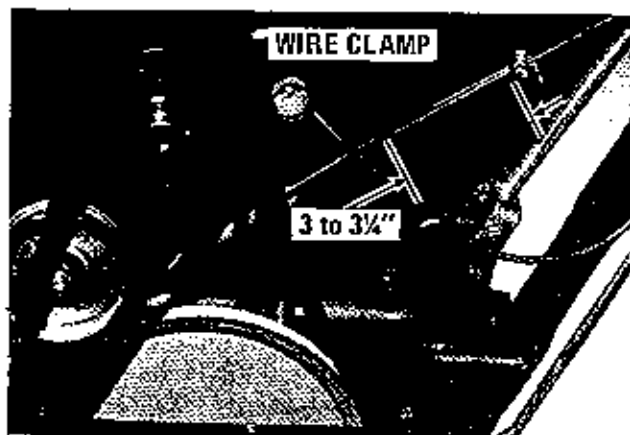

Figure 12
4. Adjust the Touch-O-Matic control engagement at the control wire clamp. Loosen the clamp screw. Pull the upper extension wire down and the lower extension wire up until there is 3 or 3-1/4 inch clearance between the clamp and the end of the lower extension wire. Tighten the clamp screw securely. See Figure 12.